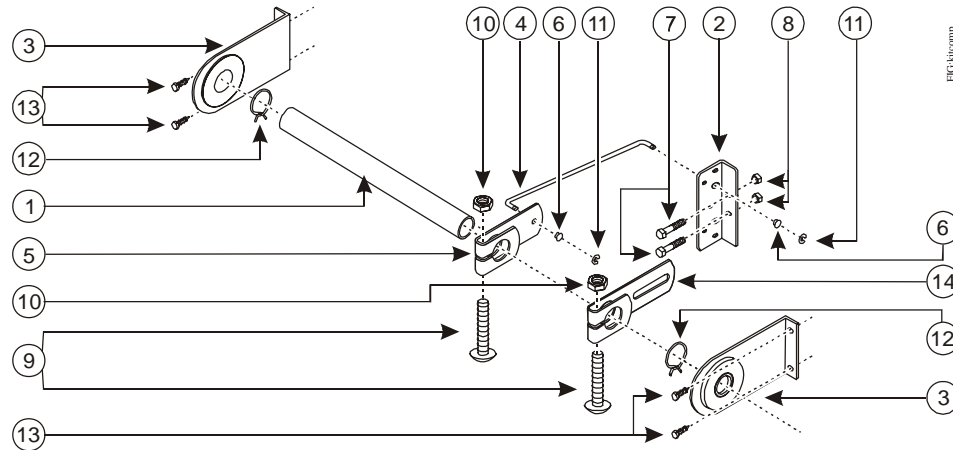
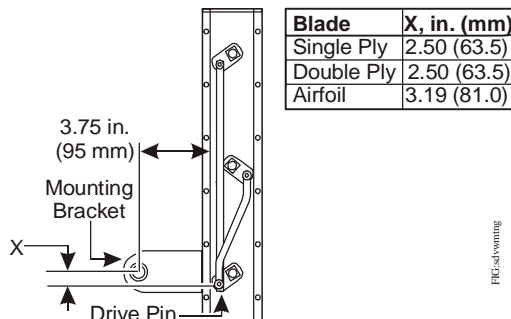

Figure 1: Jackshaft Kit Components
Figure 6: Side View of Mounting Bracket Position
1. Drill two holes for the blade bracket (Item 2 in Figure 1) using a 1/4 in. bit (or equivalent).
- Position the bearing bracket (Item 3 in Figure 1) on the framework (see Figure 6). Repeat for each bearing bracket.
- Hold the brackets in place and secure with the self-drilling No. 10 screws (Item 13 in Figure 1).
- Attach each bearing bracket to the framework using two No. 10-HWH x 1/2 in. CG self-drilling screws (Item 13 in Figure 1) per mounting bracket.
- Slide the jackshaft (Item 1 from Figure 1) through one mounting bracket until it almost reaches the other mounting bracket.
- Install one spring hose clamp (Item 12 from Figure 1) onto the jackshaft and position it against the first mounting bracket.
- Install one crank arm (Item 5 from Figure 1) and one drive arm (Item 14 from Figure 1) onto the jackshaft; secure each with a carriage bolt (Item 9 from Figure 1) and lock nut (Item 10 from Figure 1).
- Install the second spring hose clamp (Item 12 from Figure 1) on the inside edge of the final mounting bracket, leaving enough room to insert the jackshaft through the other mounting bracket.
1. Secure the tie-rod (Item 4 from Figure 1) to the crank arm using the nylon bushing (Item 6 from Figure 1) and the E-Ring (Item 11 from Figure 1).
2. Secure the other end of the tie-rod to the Blade Bracket (Item 2 from Figure 1) using the other Nylon bushing (Item 6 from Figure 1) and the other E-Ring (Item 11 from Figure 1).
3. Slide the remaining crank arm onto the jackshaft; secure it with a carriage bolt (Item 9 from Figure 1) and lock nut (Item 10 from Figure 1).